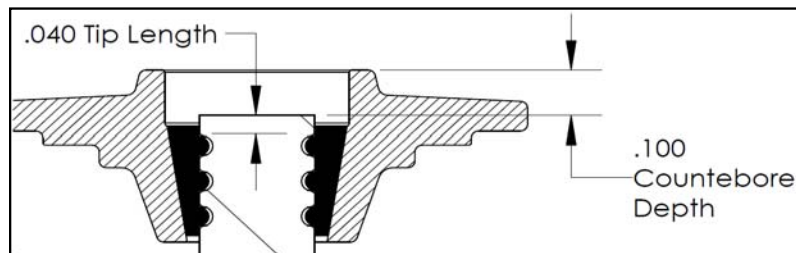

Figure 1) Installation assembly after valve tip modifications.
Note 2: MODIFICATION NECESSARY. KPMI recommends roughly 0.100" of shim counterbore depth in the retainer. This distance is measured prior to the installation of the rocker shim, from the tip of the valve to the top surface of the retainer. To achieve this measurement, **the valve is intended to be "tipped" / shortened by 0.035"** (See Figure 1, page 2) Note: removing .035" should leave roughly .040" of tip length above the last groove on an OEM style groove. KPMI doesn't recommend less than .040" of tip length.
1. Stem Protrusion is measured from the tip of the valve stem to the cylinder head. See Figure 1.
2. Outer spring installed height is measured where the outer spring contacts the Retainer and Basewasher when assembled (See Figure 1).
3. Inner spring installed height is measured where the inner spring contacts the Retainer and Basewasher when assembled (See Figure 1).
4. Retainer-to-Guide clearance is the distance between the Valve Guide (w/o the seal) and the bottom of the Retainer, with the Valve in the closed position (See Figure 1 and Notes 3 & 4).
5. Retainer-to-Seal clearance is the distance between the Valve Stem Seal and the bottom of the Retainer, with the Valve in the closed position (See Figure 1 and Notes 3 & 4).